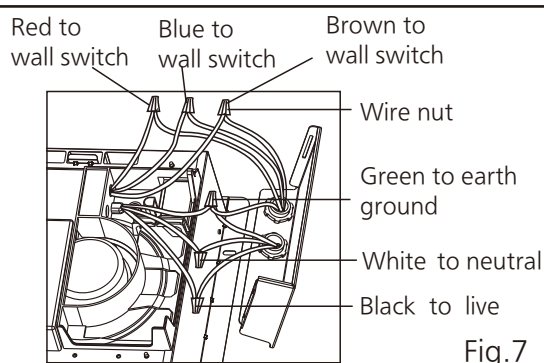
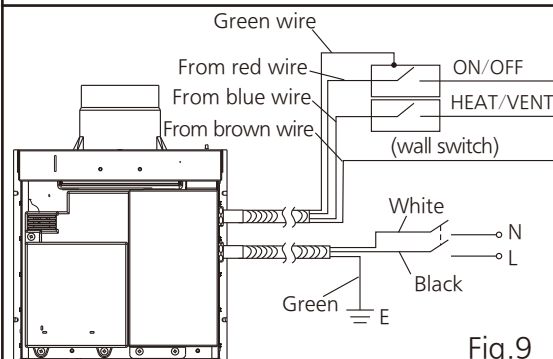

Fig.7
Fig.9
- ③ Refer to wiring diagram (Page.6) or Fig.9, follow all the local electrical safety codes. As well as the National Electrical code (NEC), Using UL approved wire nuts, connect house power wires and control lead wires to product wires.(Fig.7) Make sure all connections are fastened firmly after wiring is finished.